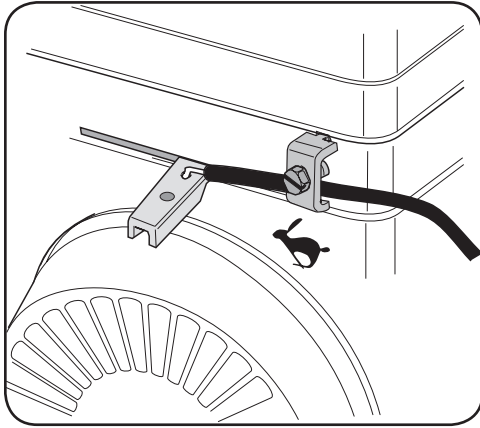

Figure 3-4
1. Remove the casing clamp and screw from the front left of the engine and hook the throttle cable into the throttle as shown in Figure 3-4.
2. Reinstall the casing clamp and screw but do not fully tighten the screw yet. See Figure 3-4.